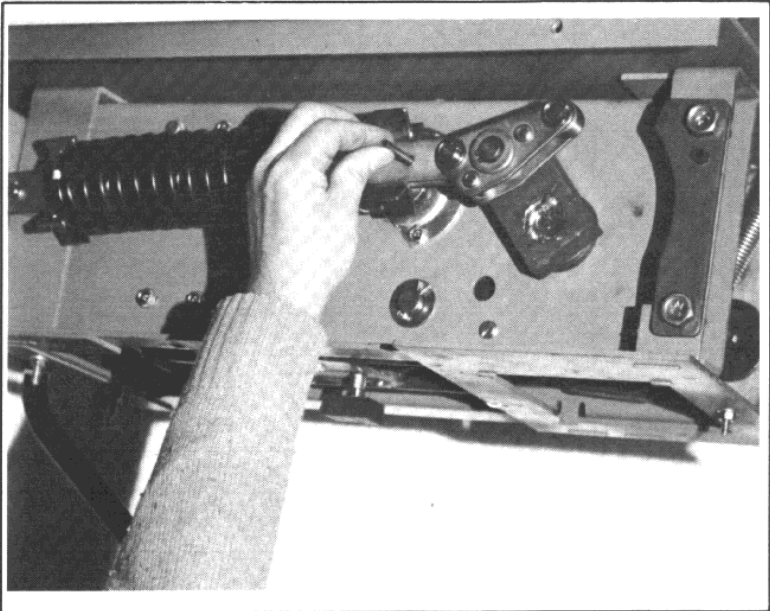

Figure 11
3. Continuing to put a slight pressure on the charging handles, insert a 6mm or 10-32 diameter screw or pin through the hole as shown. Repeat for lower spring. (Figure 11)